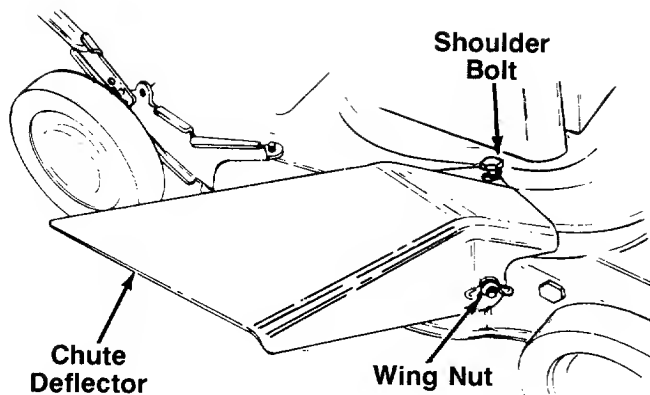
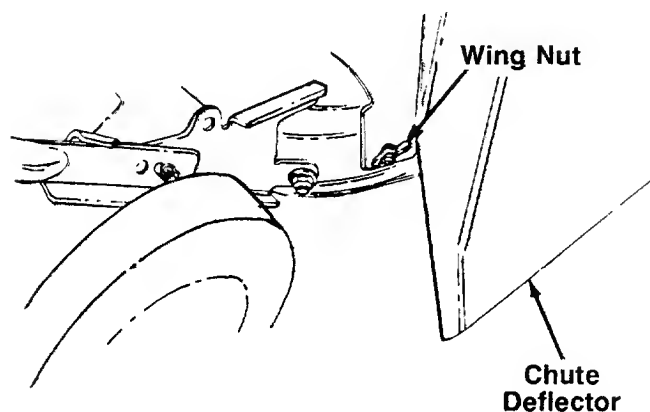

FIGURE 13.
FIGURE 14.
1. Attach the side chute deflector by first placing it over the rear bolt in the side of the deck. Then slide the notch in the top of the deflector around the shoulder bolt on top of the deck. Slide the notch in the side of the deflector around the front bolt in the side of the deck. See figure 13.
2. Secure the front of the chute deflector to the bolt on the side of the deck with one wing nut. See figure 13. Secure the back of the chute deflector in the same manner. See figure 14.
2. Attach the side chute deflector as instructed on page 11. Refer to figures 13 and 14.